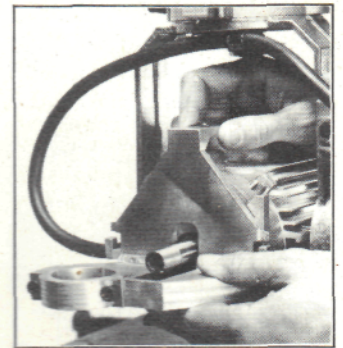

Fig. 59
- (ii) Position the router bracket over the end of the Powershop motor shaft, carefully locating the lugs of the bracket behind the lugs on the end of the machine's motor housing (Fig. 59). In lining these up correctly, the hole in the upper arm of the bracket will also locate over the standard guard retaining bolt on the top of the motor housing, where it can be firmly secured with the wing nut supplied.